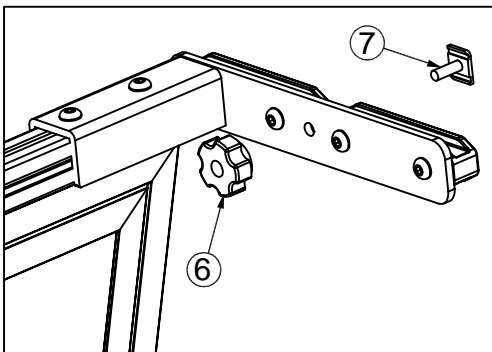

Fig. 3
5. Assemble the Knob (#6) and Anchor Plate (#7) to the Bed Divider (#1). Only turn the Knob (#6) onto the Anchor Plate (#7) a few turns. (See Fig. 3)